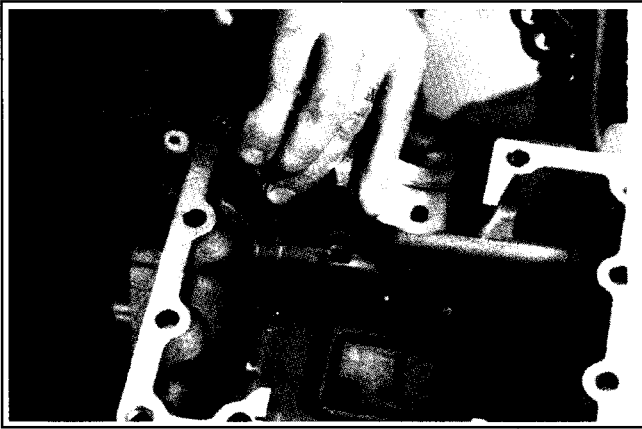

Figure 11-8. Installing Oil Pressure Relief Roll Pin.
2. Install the roll pin flush with the surface. See Figure 11-8.